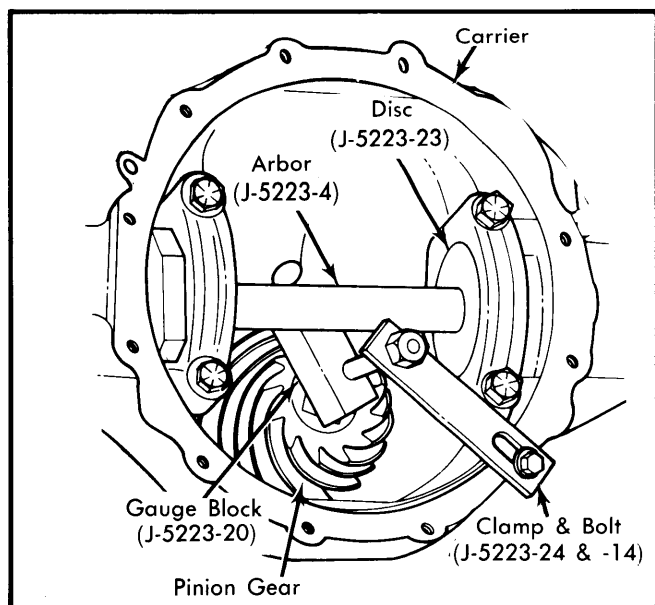

Fig. 6 Measuring Pinion Depth. Make Measurement With Gauge Block Inserted Between Pinion Gear and Arbor.
3) Install pinion depth shim pack and inner pinion bearing cup into rear of housing. Install pinion gear and depth checking tool into carrier. See Fig. 6. Position blank end of gauge block on pinion gear and plunger end under arbor. Tighten clamp bolt onto gauge block until tight enough to prevent movement of gauge block. Loosen thumbscrew on gauge block to release plunger into arbor. Retighten thumbscrew, remove clamp bolt and gauge block from housing.